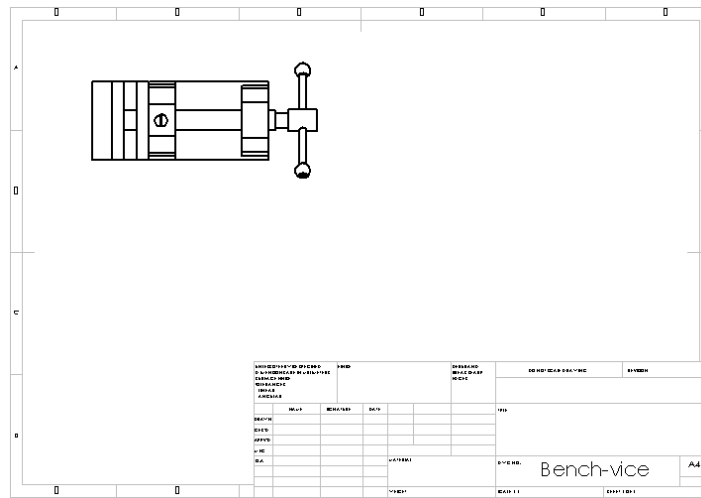

Figure 12-58 Top view generated using the **Named View** tool
- c. Create the drawing document in the standard A4 Landscape sheet format and generate the parent view using the named view tool, refer to Figure 12-58.
You may also need to move the view. Figure 12-58 shows the parent view placed in the drawing sheet.